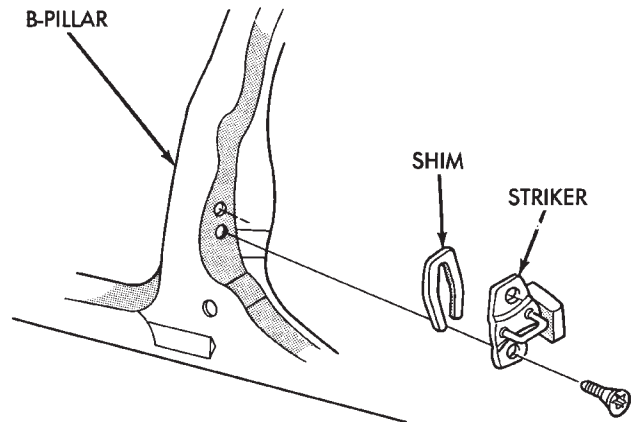

Fig. 26 Front Door Latch Striker
- (1) Mark outline of door latch striker on B-pillar to aid installation.
- (2) Remove screws holding door latch striker to B-pillar (Fig. 26).
- (3) Separate door latch striker from vehicle.